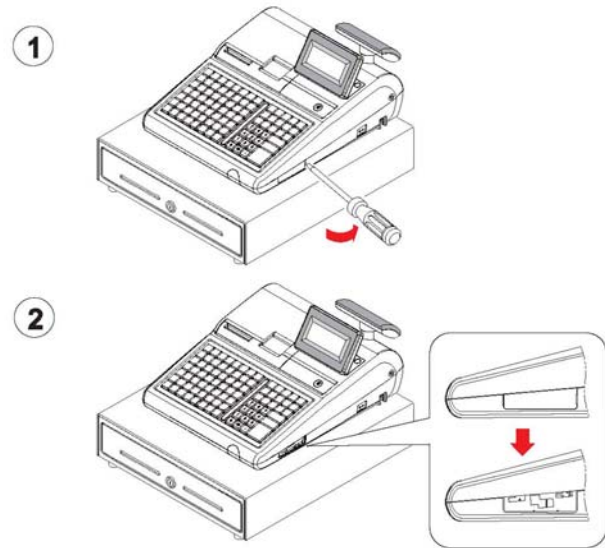

Figure 3-6 MSR Installation (1)
1. Take off the area (MSR assembly area) shown in the Figure 3-6-① by using a (-) shaped screw driver.
2. Figure 3-6-② shows the difference before and after.